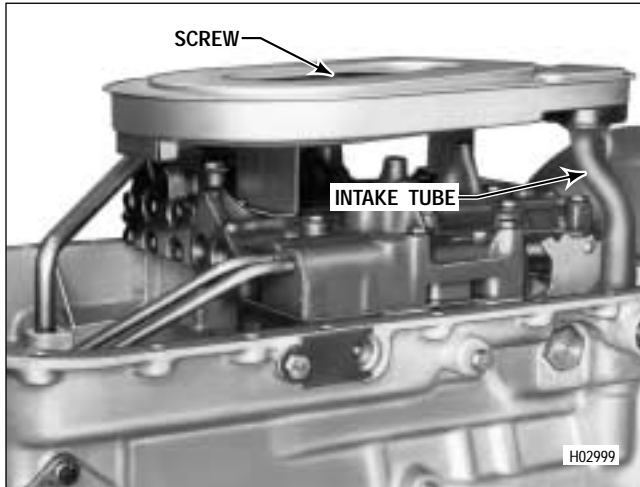

Figure 7-34. Installing Oil Filter Screw and Washer (Models Prior to S/N 3210622842)
(2) Install the intake tube and sealring (Figure 7-34).
(3) Install the filter onto the intake tube, making sure the grommet in the filter fits the intake pipe snugly (Figure 7-34).